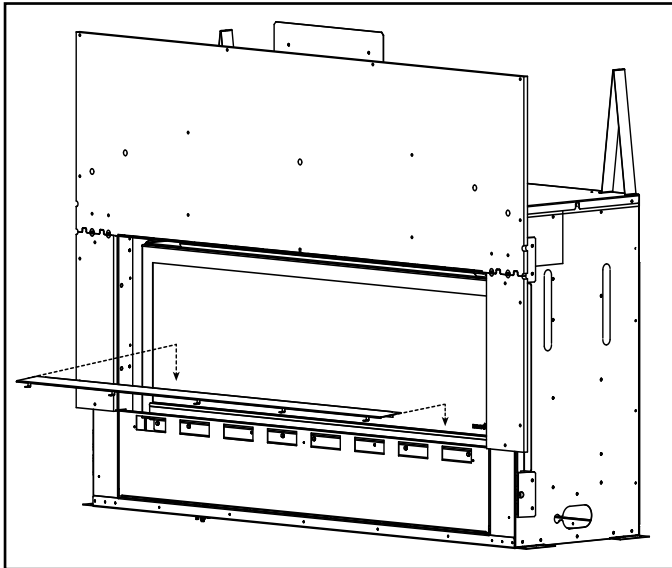

Figure 11.19 Install Bottom Vanity Panel
9. Install bottom vanity panel between glass and glass frame. See Figure 11.19.